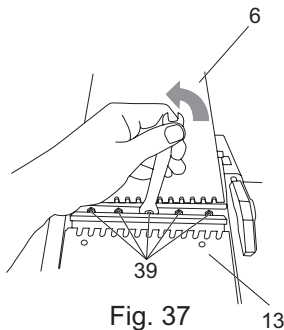

Fig. 37
- > Turn the cutter-block so that one of the blades is exposed in the gap between the in-feed (6) and out-feed (13) tables.
- > Turn the five blade tensioning screws (39) anticlockwise with 10mm spanner to loosen. (Fig. 37)